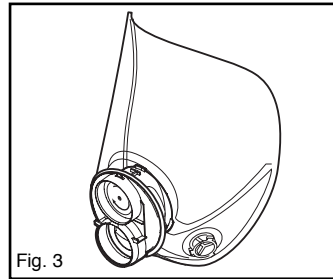

Fig. 3
4. Place new 6889 valve over the exhalation port and push or press valve stem into center hole. (Fig. 3) Be certain the valve is fully seated and spins freely in mount.